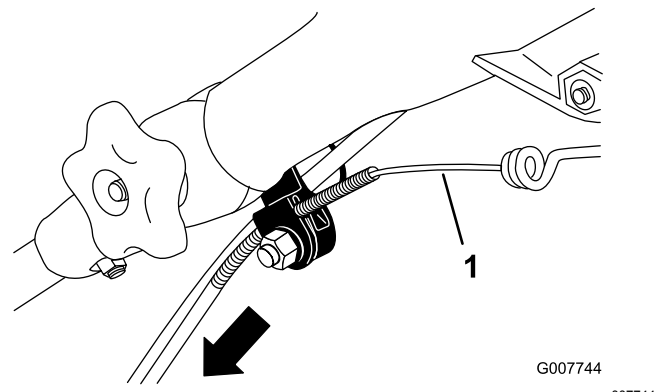

Figure 23
3. Pull the cable jacket downward until you remove the slack in the exposed cable (Figure 23).